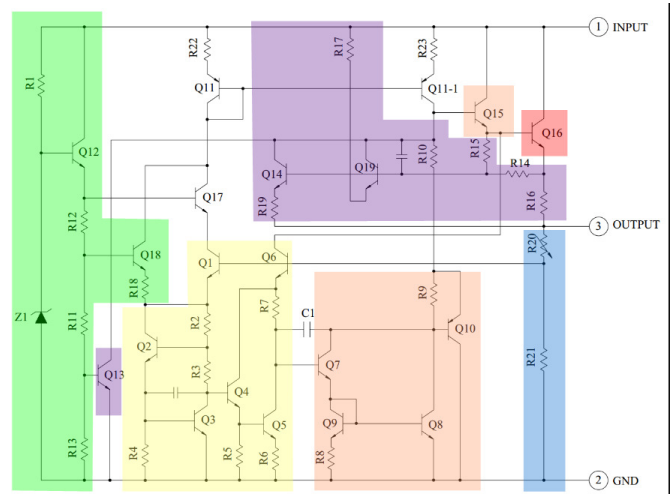

Fig. 2.1: LM7809 Regulator
2.2 State the function of each colour coded circuit in Fig 2.1